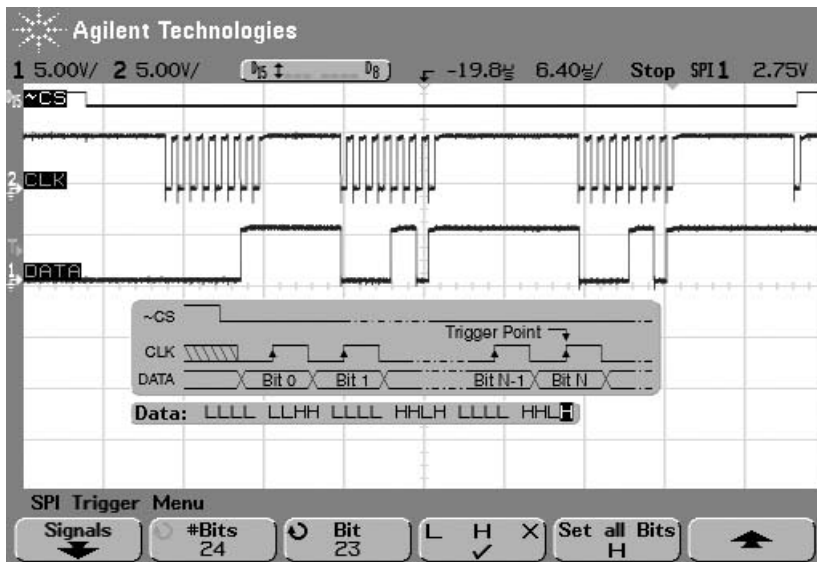

Figure 7. Setting up and triggering on SPI signals. The MSO will trigger on the Nth clock edge (from 4 to 32) if the specified data pattern is true.
Because SPI does not have a formal standard, there are many different types of implementations. Common debug problems in SPI systems involve configuring the clock rate for the controller as well as the phase and polarity for how each peripheral clocks data in and out. For example, in the web phone device shown in Figure 7, some devices may or may not clock data in and out using the same polarity and phase of the clock. Because of this, there could be difficulties configuring the devices on the bus.
system. In the previous web phone design, MegaZoom deep memory allows the user to correlate audio events, in the 20 kHz range, with DSP digital events, in the 10 MHz range, all in the same acquisition. The user can connect to the clock, data (either MISO or MOSI) and chip select framing (SS) signals in the target system. As shown in Figure 7, the 2 analog channels can monitor the data and clock while the 16 digital timing channels can monitor the chip select lines attached to the peripheral devices.